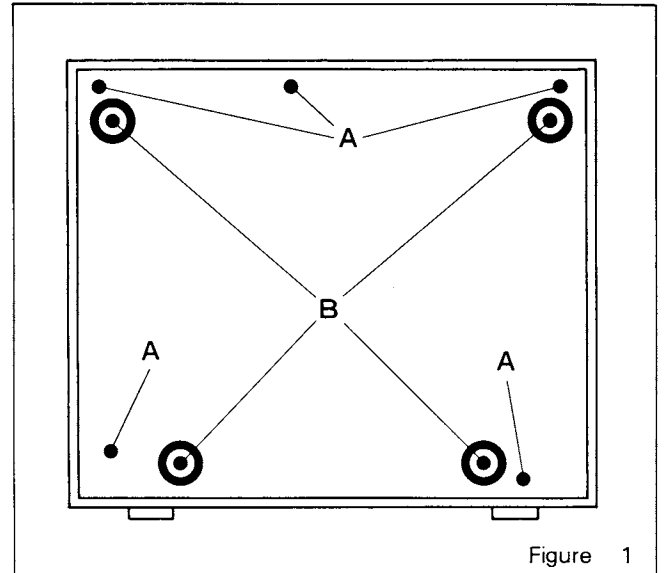

Figure 1
5. Position the unit upside down and remove five screws (A in Fig. 1) which mount the Plate bottom to the cabinet and four screws (B in Fig. 1) which mount the rubber feet to the cabinet.